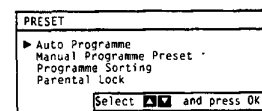

Fig. 6.
- 1 Select Preset with $\Delta+$ or $\nabla-$ and press OK. The PRESET menu appears. (See Fig. 6.)